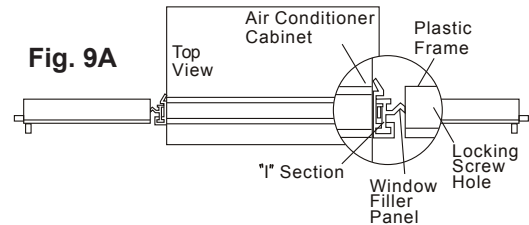

Fig. 9A
3. Insert top and bottom legs of window filler panel frame into channel in the top angle and bottom rail. Do both sides (See Fig. 9A.)
4. Insert washer head locking 7/16" screws (2) into holes in top leg of filler panel frame. (See Section 6.) Do not totally tighten. Allow leg to slide freely. Screws will be tightened after section 6.